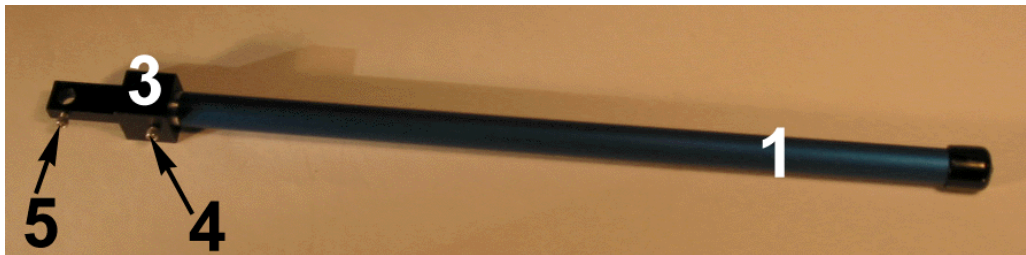

Figure 5 Medium Single Pendulum
As shown in Figures 5 and 6, below, there are two kinds of single pendulums, depending on their length. The "medium" pendulum is 12-inch long, in contrast with the "long" pendulum, which has a length of 24 inches.
As a component nomenclature, Table 2, below, provides a list of all the principal elements composing both single pendulum systems. Each of these elements is located and identified, through a unique identification (ID) number, on both medium and long single pendulum systems as represented in Figures 5 and 6, above.